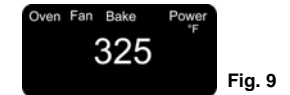

Fig. 9
- Press "Oven" button one (1) time to select the "Bake" feature without convection, or two (2) times to select "/Fan Bake" for convection baking. (Fig. 9)